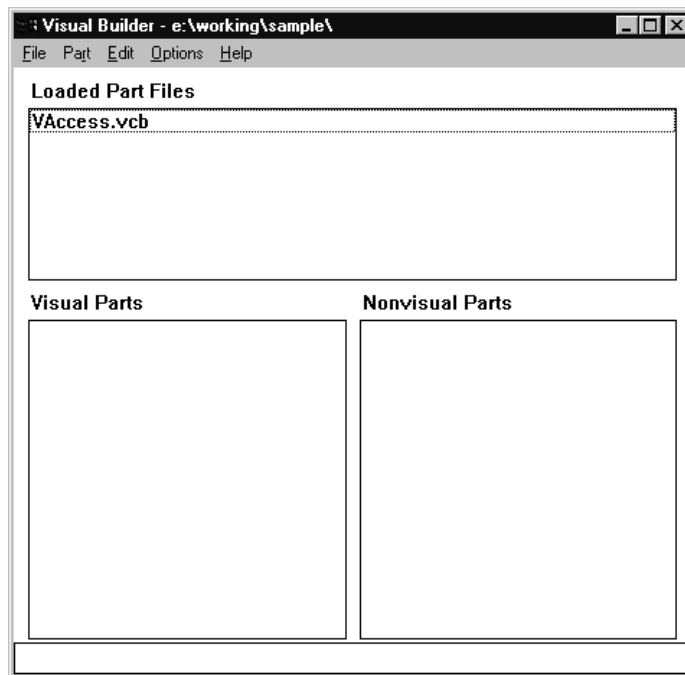

Figure 26. Visual Builder window
Visual Builder displays the Visual Builder window, as shown in Figure 26 on page 81. If you double-clicked on a part file to open Visual Builder, the file is loaded and opened.
Visual Builder displays the Visual Builder window, as shown in Figure 26 on page 81. If you double-clicked on a part file to open Visual Builder, that file is loaded and opened.
2. Select the **Visual Builder** menu item. Visual Builder displays the Visual Builder window, as shown in Figure 26 on page 81. You need to specify a working directory and load part files. Refer to “Getting to know the Visual Builder Window” on page 31 to learn more about specifying working directories and loading part files.
3. Select the **COBOL Visual Builder** menu item. Visual Builder displays the Visual Builder window, as shown in Figure 26. You need to specify a working directory and load part files. Refer to “Getting to know the Visual Builder Window” on page 31 to learn more about specifying working directories and loading part files.
3. Press the Enter key. Visual Builder displays the Visual Builder window, as shown in Figure 26.